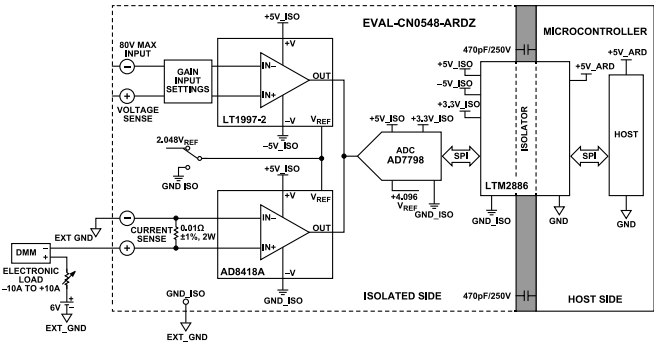
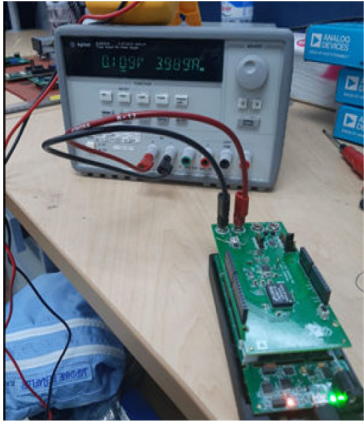

Figure 17. Current Input Test Setup
Figure 18. Current Input Test Setup Photo
8. For current sensing measurement, connect the banana connectors at main DC source as shown in Figure 17 and Figure 18.
The EVAL-CN0548-ARDZ was tested in Unipolar and in Bipolar mode, sweeping the input current from 0 A to 9 A and -9 A to +9 A, respectively, in 100mA steps. The EVAL-CN0548-ARDZ board reading was compared to a Keithley DMM7510 high-resolution 7 1/2-digit multimeter as seen in Figure 17 and Figure 18.